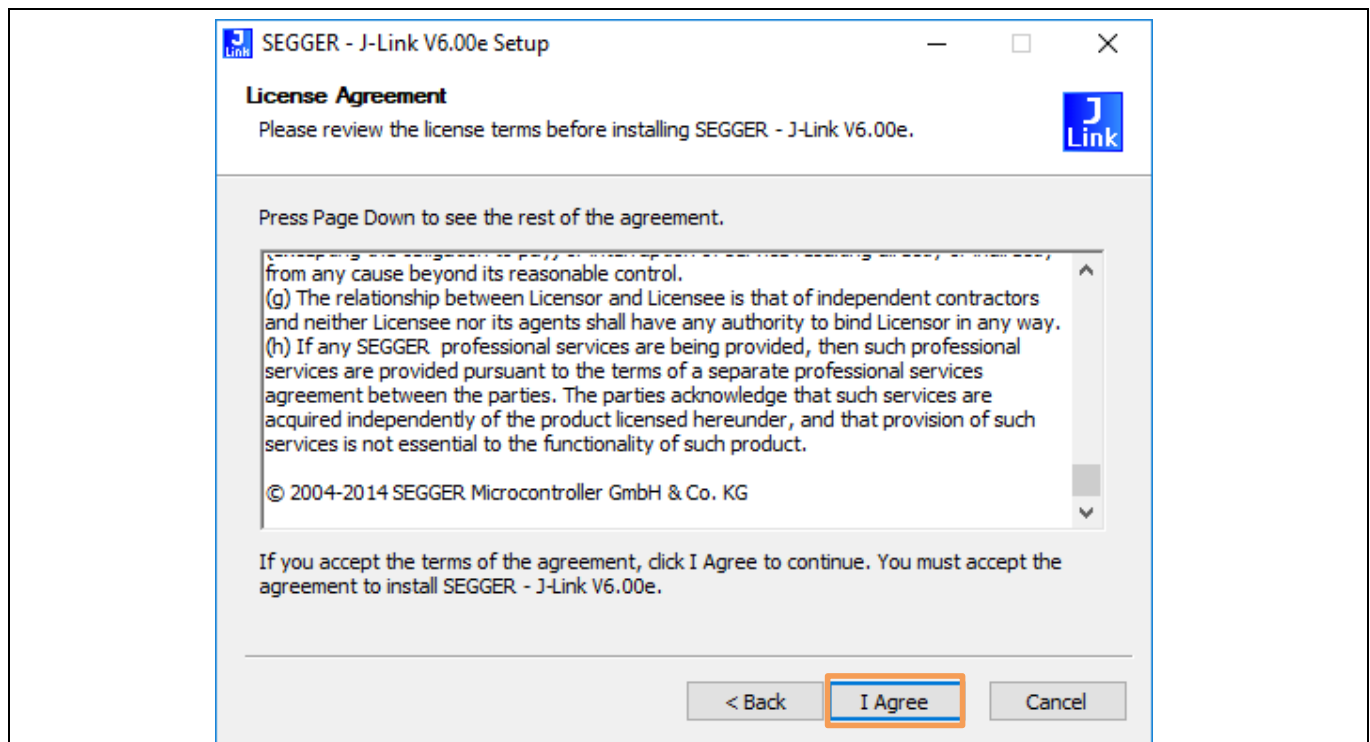

Figure 28 SEGGER JLINK Drivers – License Agreement
- Read through the license agreement carefully and continue the installation by accepting it (see orange color box of Figure 28). If the license agreement is not accepted, then the installation will be aborted. Click **“Next”** button to continue with the installation.